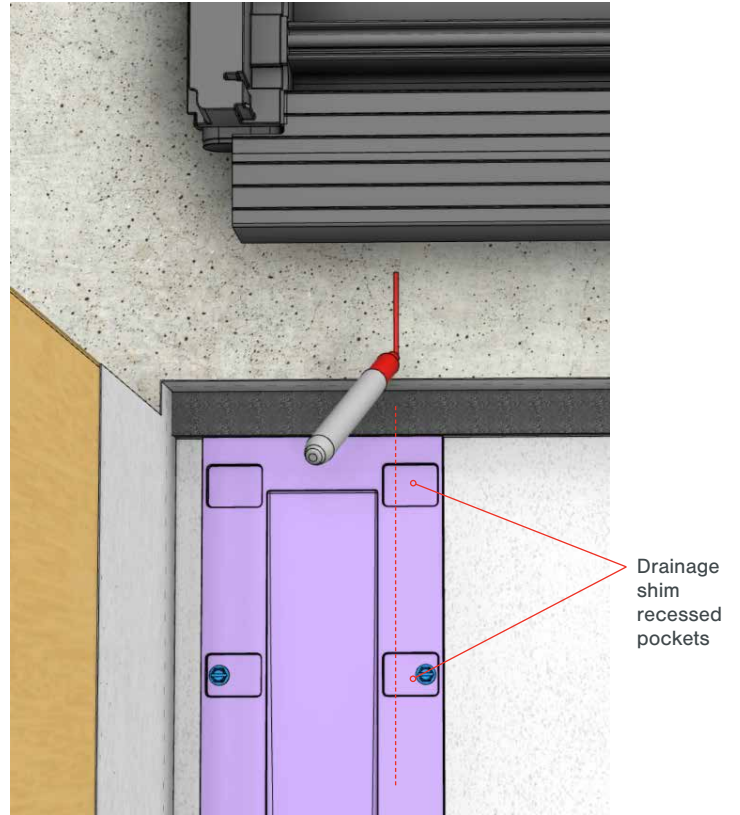

Fig 14
- With the Sill sitting just inside the R.O. mark the locations of the recessed pockets of the drainage shims on the Interior unfinished floor, see Fig 14.
- Try to align the marks on the opposite side of the recessed pockets that contain the fastener used to hold down the shim (Fig. 14)